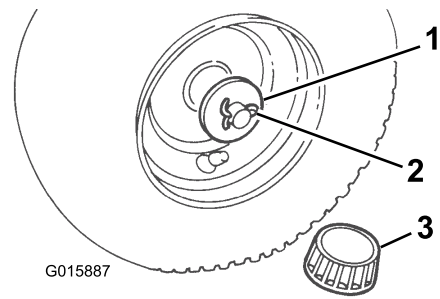

Figure 2
4. Insert the cotter pin through the axle and bend the ends of the pin apart (Figure 2).
5. Push the hub cap (Figure 2) onto the end of the axle.